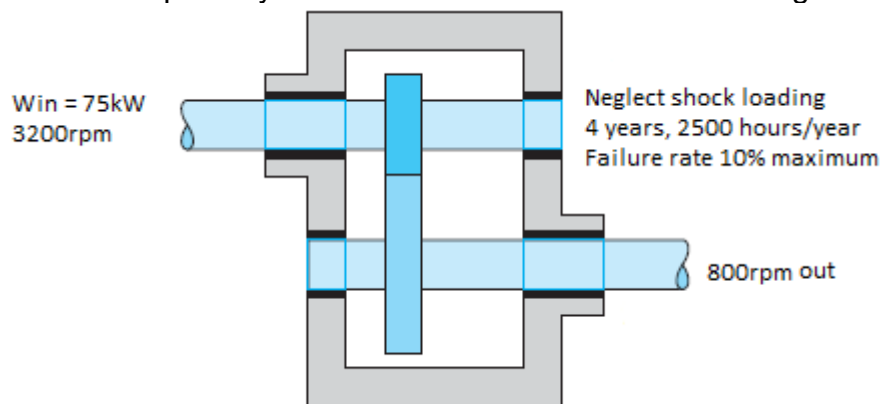

Fig.4 Schematic for Question.4
4. Design a pair of spur gears to connect to a 75kW, 3200rpm motor to a 800rpm load shaft. Shock loading can be neglected. The centre-to-centre distance should be as small as possible. You must also ensure that there is good contact ratio. A life of 4 years of 2,500 hours/year of operation is desired. The likelihood of failure should not exceed 10 percent. The design should involve use of standard gear system. Justify all assumptions you make. A schematic is shown in Fig.4